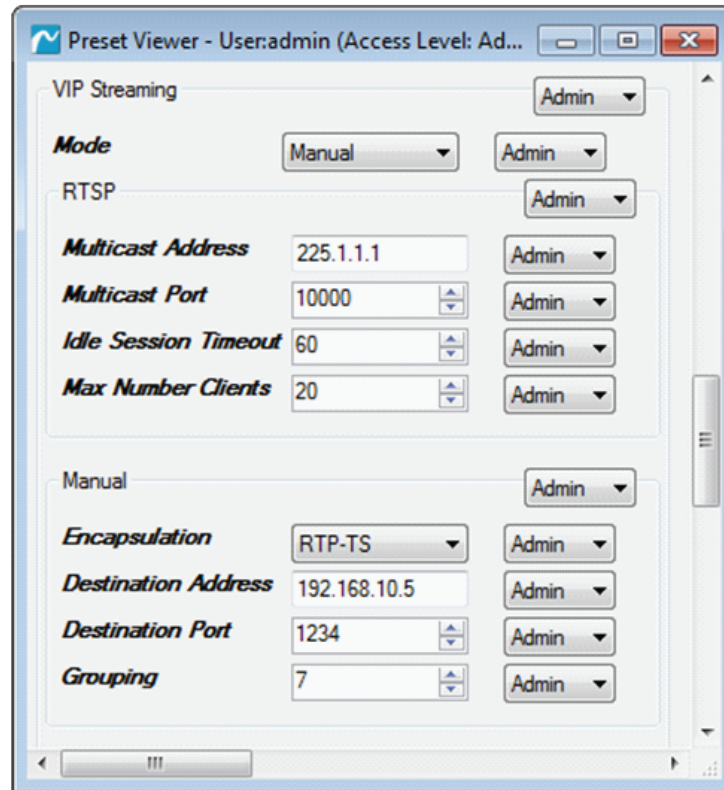

Figure 3: Change the Streaming Mode to Manual
- Set the Streaming mode to “Manual” as shown in Figure 3.